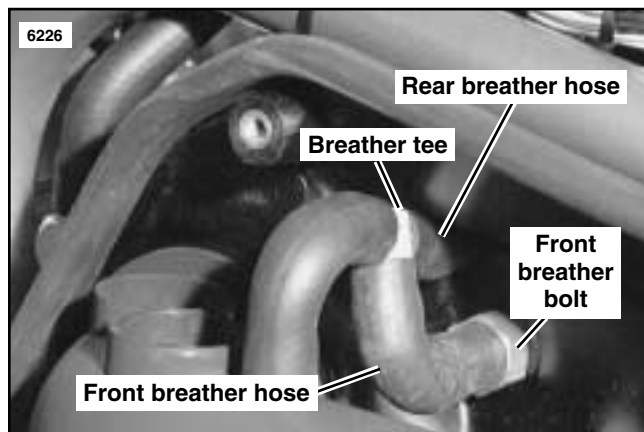

Figure 7. M2 or S3 Stock Breather Hoses
9. See Figure 7. Disconnect hoses.